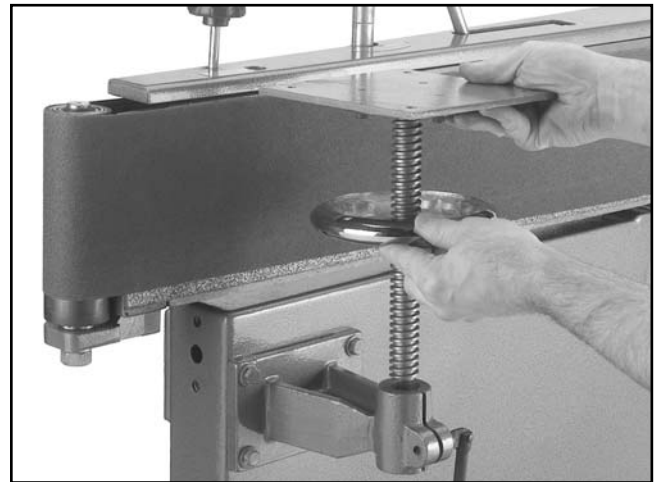

Figure 12. Lead screw assembly installed in bracket.
2. Insert the lead screw assembly as shown in **Figure 12**.